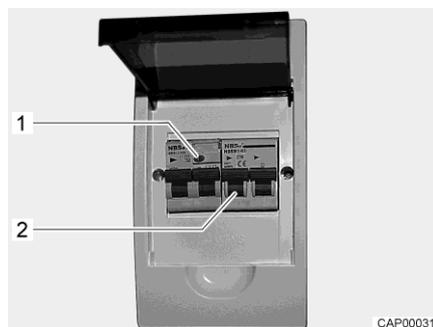

Fig. 76 230 V fuse box with safety cut-out and FI-switch
A fault current protection switch (FI-switch) in the fuse box protects the complete vehicle from fault current (0.03 A). A downstream safety cut-out (10 A) (Fig. 76,2) secures the 230 V power supply.
- When the vehicle is connected to the 230 V power supply, press the test button (Fig. 76,1). The fault current protection switch must trip.